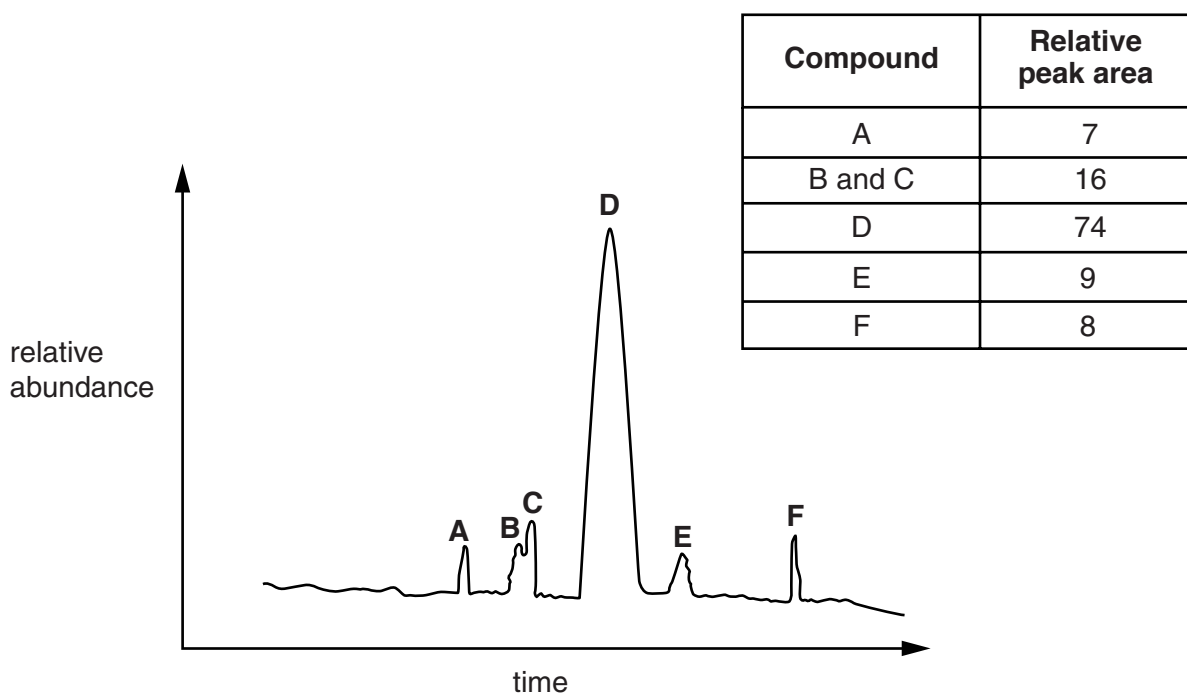

Fig. 2.2
- (k) A gas-liquid chromatogram was taken of some orange oil and is shown in Fig. 2.2.